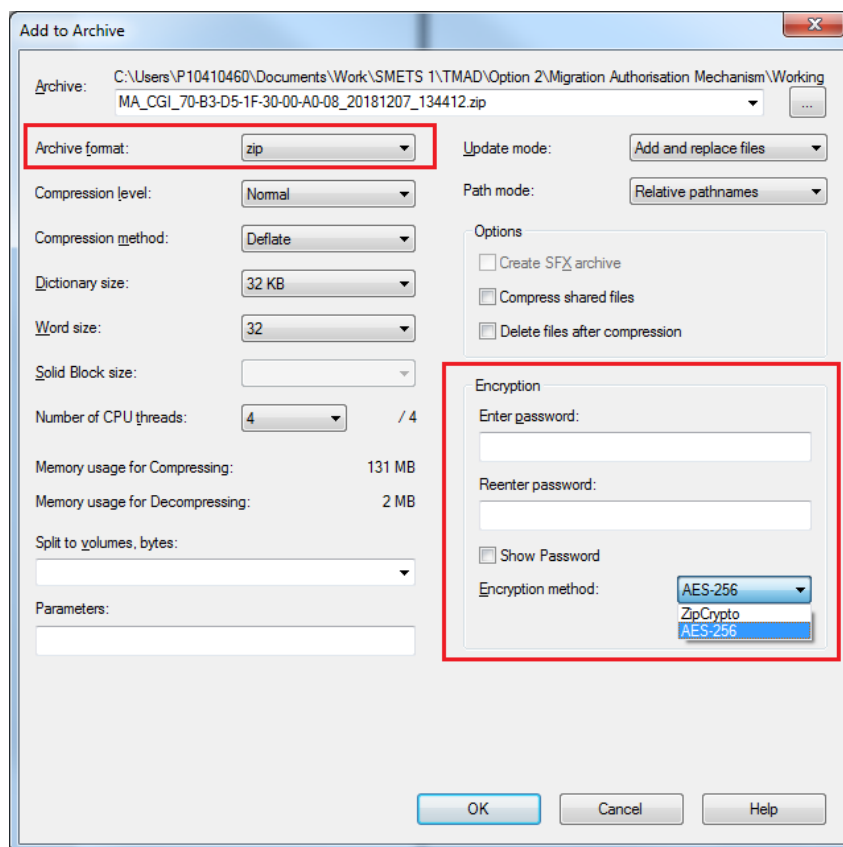

Figure 7.5.3: Select Archive format and Encryption method
- iii. Ensure Archive format is zip and Encryption method is AES-256 as shown in Figure 7.5.3